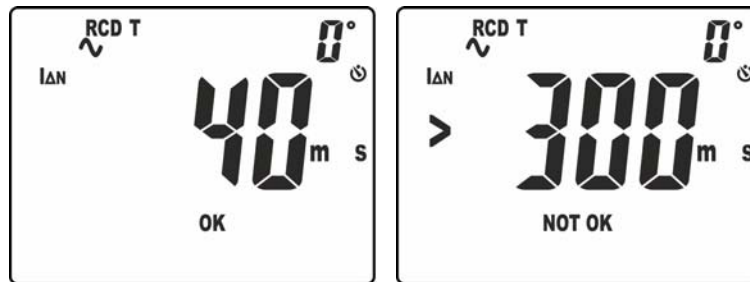

Fig. 35: Tripping time in manual mode at $I_{\Delta n}$
10. The correct measurement result is shown on the display (see Fig. 35 – left side) with indication “OK”
11. The correct measurement result is shown on the display (see Fig. 35 – right side) with indication “NOT OK”. The buzzer gives a short continuous sound